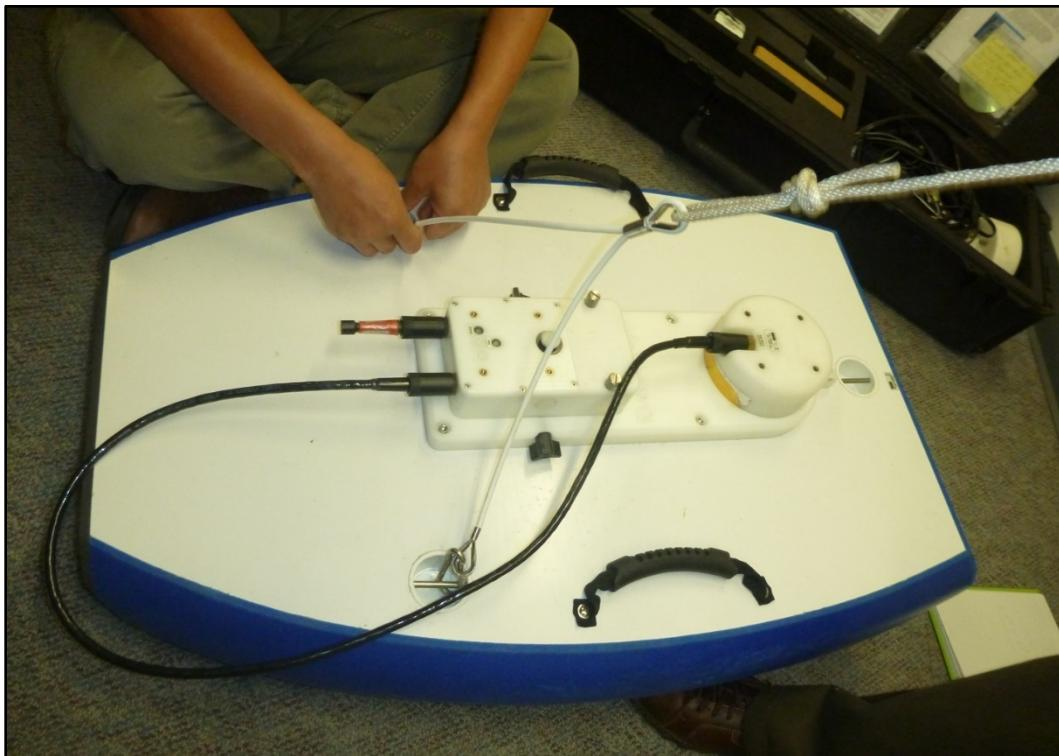

Figure 8.—Connect ADCP to PCM using short, black cable.
- e. Connect short, black cable to the ADCP and PCM (figure 8).